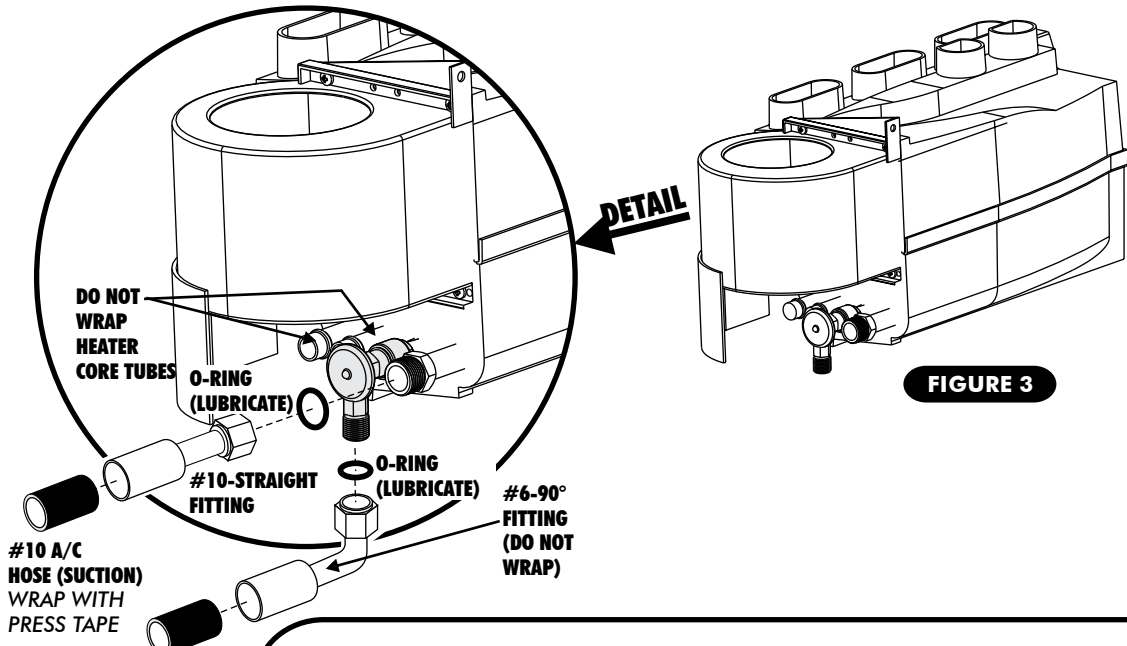

FIGURE 3
19. AFTER CRIMPING HOSES, LOCATE THE #6 A/C HOSE WITH THE STRAIGHT FITTING. LUBRICATE A #6 A/C O-RING AND THE THREADS ON THE FITTING, AND INSTALL ON THE EXPANSION VALVE. TIGHTEN CAREFULLY. REFER TO FIGURES 3 & 3A, PAGE 9.
20. LOCATE THE #10 A/C HOSE WITH THE STRAIGHT FITTING. LUBRICATE A #10 O-RING AND THE THREADS ON THE FITTING, AND INSTALL ON THE #10 LINE OF THE EVAPORATOR. TIGHTEN CAREFULLY. REFER TO FIGURES 3 & 3A, PAGE 9.
21. WRAP THE #10 FITTING WITH PRESS TAPE, AND COVER ALL EXPOSED METAL SURFACES (DO NOT WRAP THE #6 HOSE, FITTING, OR THE HEATER CORE TUBES). SEE FIGURE 3, PAGE 9.